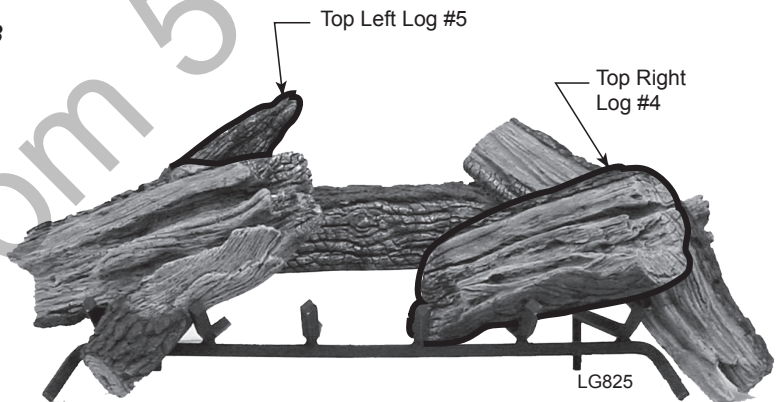

Figure 56 - Place Top Right Log #4 and Top Left Log #5
4. Place Top Right Log #4 on Bottom Right Log #2 resting on grate. *Figure 56*
5. Place Top Left Log #5 behind Rear Log #1 on the notch on rear left of grate stand. *Figure 56*